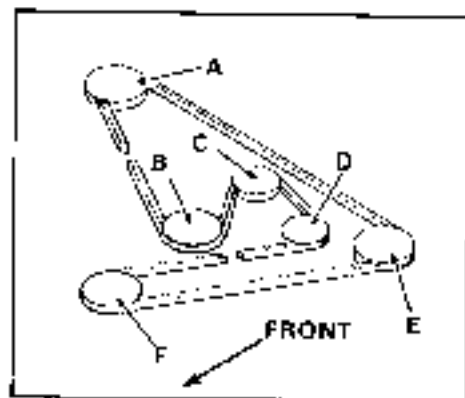

Figure 24 Mower Belt Pattern
7. Install the new belt on the pulleys. The belt pattern is shown in figure 24. Notice that the "V" side of the belt drives the V-pulleys and flat side of belt rides on the flat idler pulleys. Be sure there are not twists in the belt. Reinstall and tighten the belt steps.